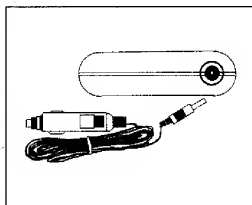

Figure 2b
Car Cord - Plug the car cord power adapter (J) into the car's cigarette light socket; then, plug the other end into the charger's power input (A). See Figure 2b.